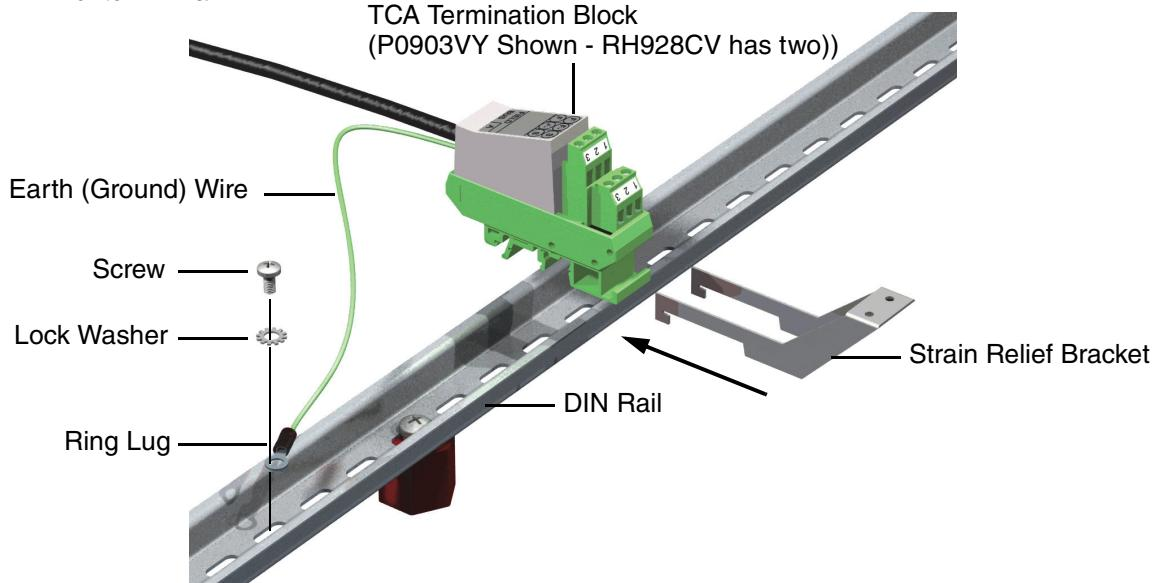

Figure 4-7. TCA Termination Block Assembly Mounting
1. Referring to Figure 4-7, assemble the termination blocks on the termination cable assembly end of the RH928CV splitter (RH928CV). Snap them onto the mounting rails (DIN rails) in the enclosure, and connect the ground wires. (For future reference, Figure 4-8 illustrates how to remove the TCA termination blocks.)